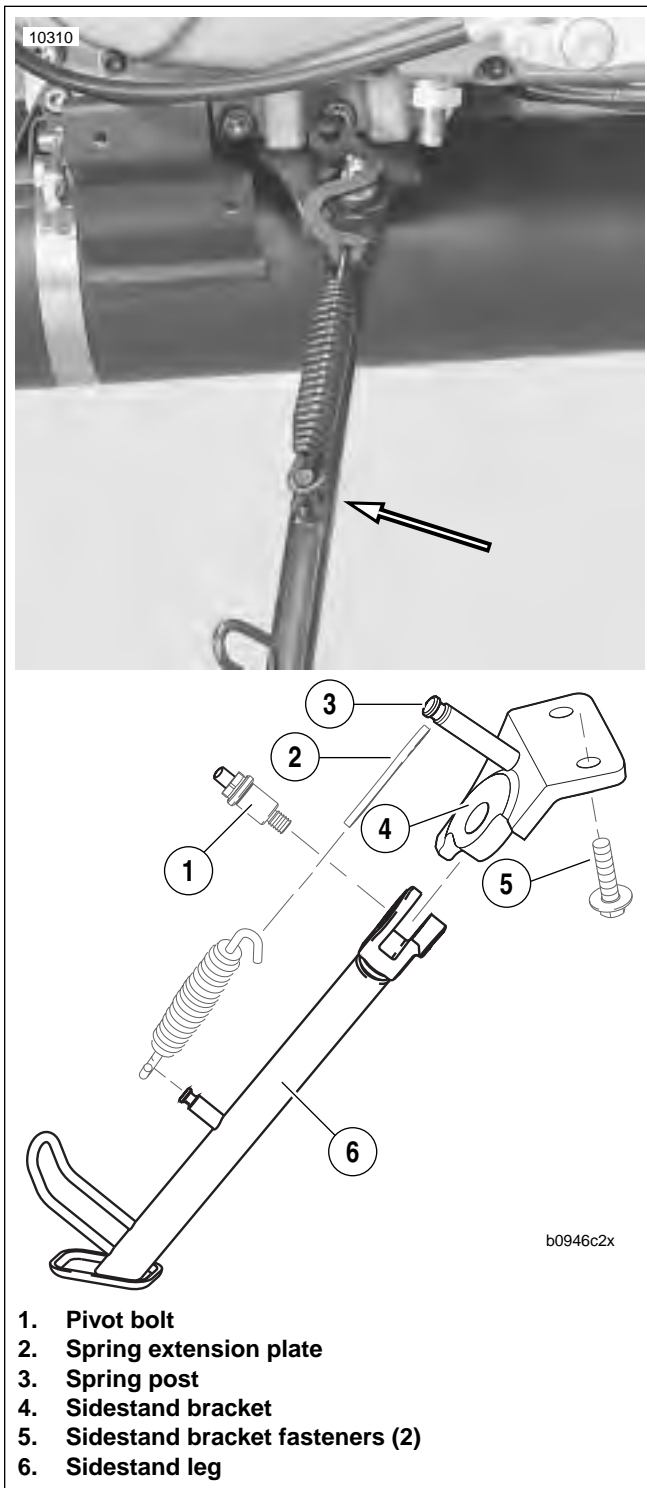

Figure 3-21. Sidestand Assembly (Extended)
29. See Figure 3-21. Remove sidestand assembly.